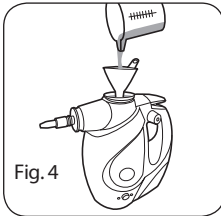

Fig. 4
2. Add 300 ml of water into the measuring jug and pour the water into the water tank (Fig. 4). (Max. capacity of the tank is 300 ml. Do not overfill the water tank.)